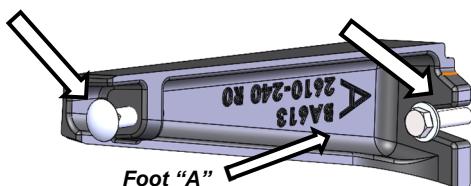

Figure 4 – Foot Installation
5. Install the 4 feet in the location of the shipping brackets. Use one foot bolt (hex head bolt), one flat washer, and one lock washer per foot to secure the foot to the stove (See Figure 4). Ensure leveling bolts are installed in the bottom of the feet.